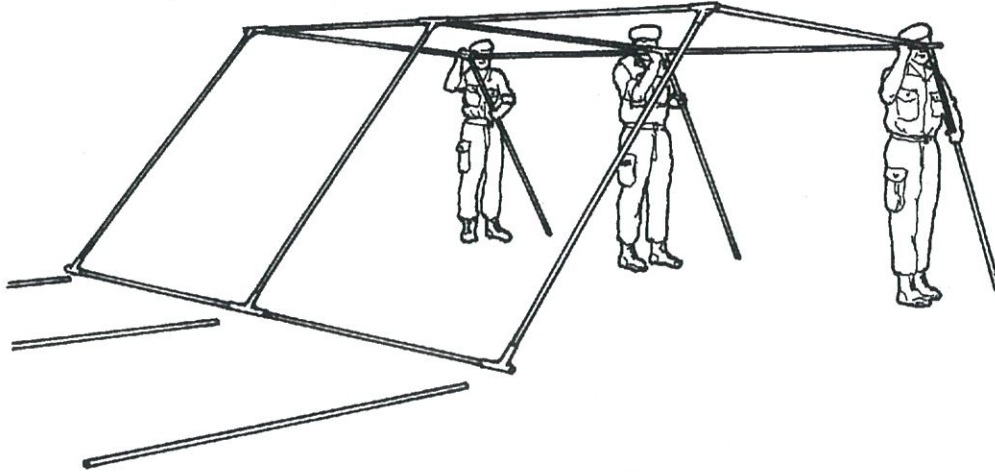

Fig 5-13 — Fitting Wall Supports To Eave Line
25. **Eave Line.** Lay out three lateral supports from positions 4 to 6 (Fig 5-8). Lift the roof frame at the eave line, and fit the supports (Fig 5-13).